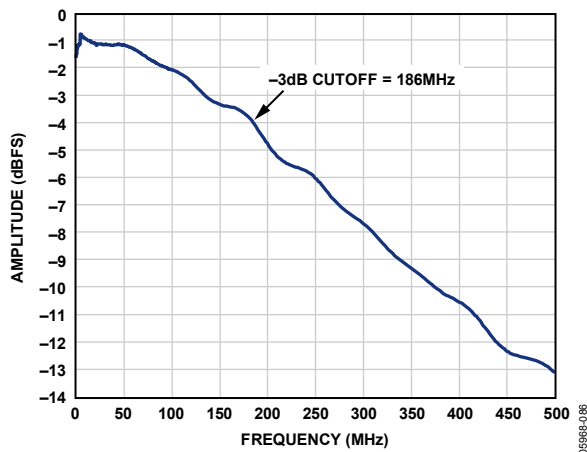

Figure 71. Evaluation Board Full-Power Bandwidth
- **AIN:** The evaluation board is set up for a transformer-coupled analog input with an optimum 50 Ω impedance match of 150 MHz of bandwidth (see Figure 71). For more bandwidth response, the differential capacitor across the analog inputs can be changed or removed. The common mode of the analog inputs is developed from the center tap of the transformer or AVDD_DUT/2.